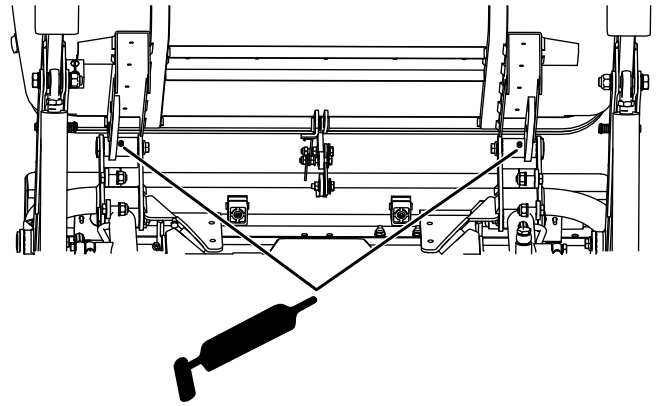

**Figure 48**
- Hopper arms—lower, front (Figure 48)